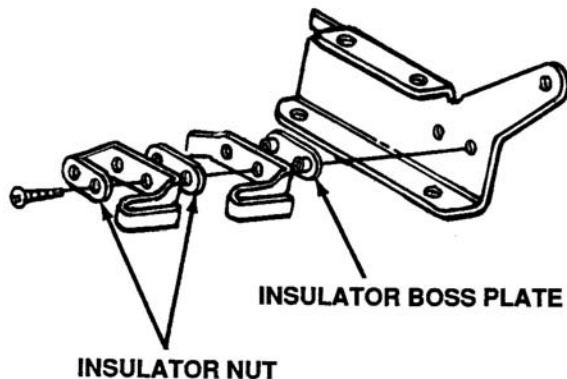

Figure 3-6. Safety Switch Insulator Nut Plates
2. The seat safety switch insulator nut plates have been redesigned to reduce the chances of a direct short. This will retrofit 1990 production units. See Figure 3-6.